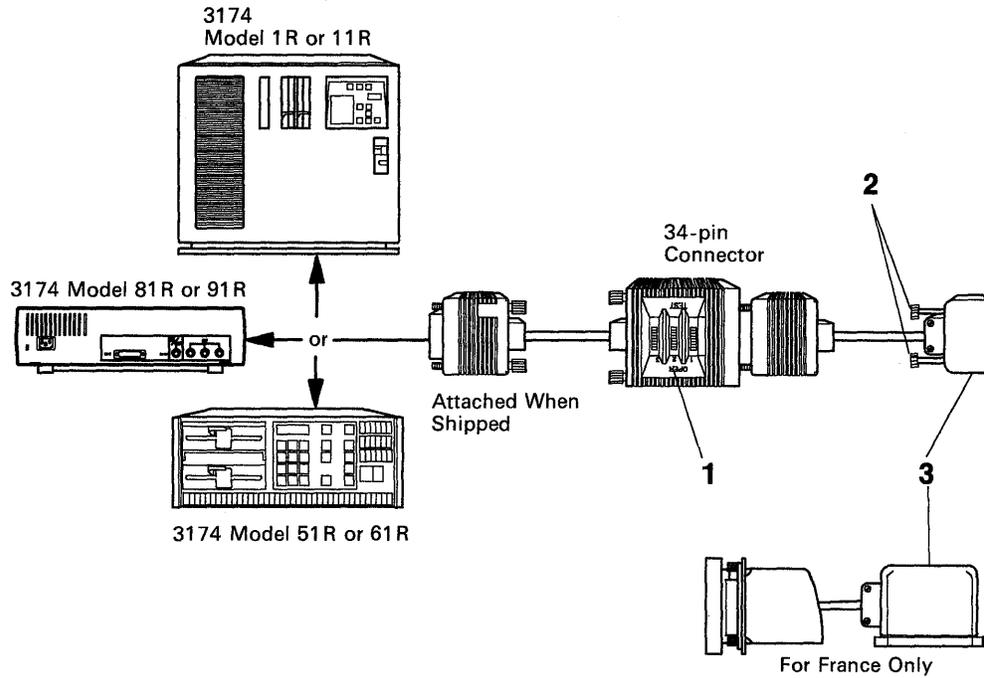

Figure 4-24. A CCITT V.35 Cable Connection
1. Set the TEST/OPER switches **1** to the OPER position. (See Figure 4-24.)